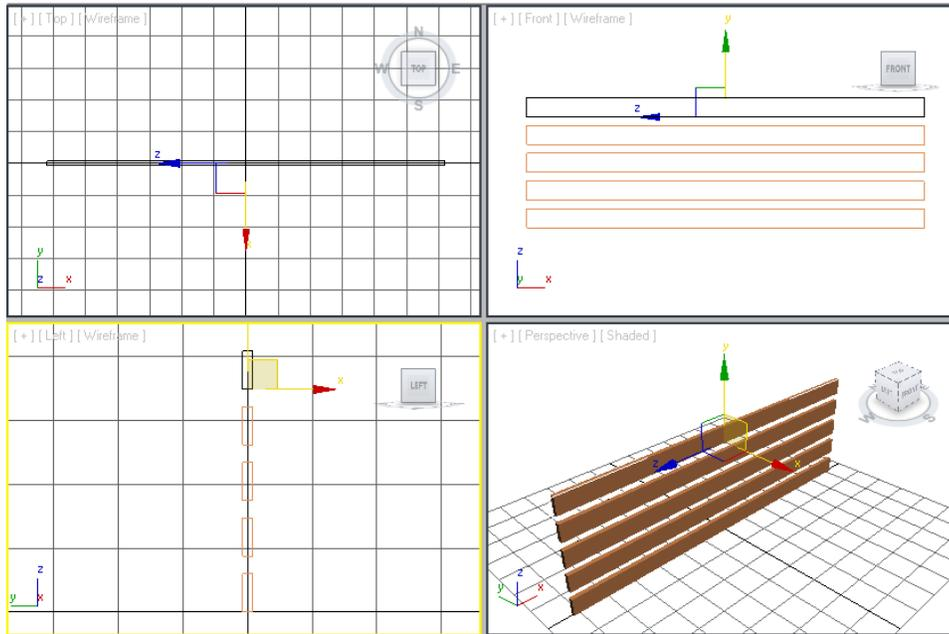

Figure 2-58 Horizontal back supports displayed in all viewports
- Choose the **Zoom Extents All** tool from the viewport navigation controls; the horizontal back supports are displayed in all viewports, as shown in Figure 2-58.